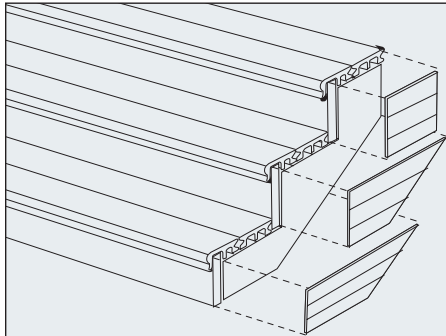

FIG.10f
- A full width of Aura fascia cladding can be attached to the stair stringers to cover the open triangular space created by the step width and height. To achieve the same appearance on both sides of the stringer cladding, two pieces of cladding, placed back-to-back, can be attached to the stringer. Alternatively, a solid lumber stringer can be attached to the stringer, and be covered with the fascia cladding. Trimming an extra width of cladding may be required to achieve full coverage of the stinger width. Slot all holes ³/₈" before attaching with #8 deck screws. (REFER TO FIG.10f)